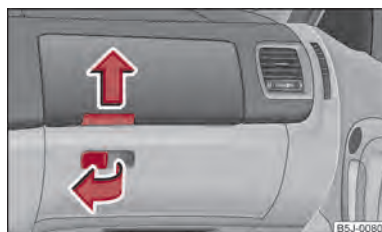

Fig. 67 Dash panel: Storage compartments on the front passenger side
- Pull the handle of the lid in direction of arrow ⇒ fig. 67 and fold it open.